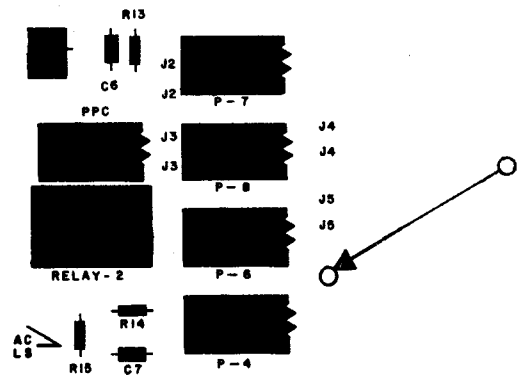

Figure 3-26. Cable Clamp Mounting Hole
2. Place the cable clamps around the I/O cable and Power Cord, and use the hole located beside P-6 and J5 (Figure 3-26) on the board for mounting the two cable clamps.
4. Insert the 8-32 x 3/4 inch screw with lockwasher down through the board and secure (Figure 3-26).